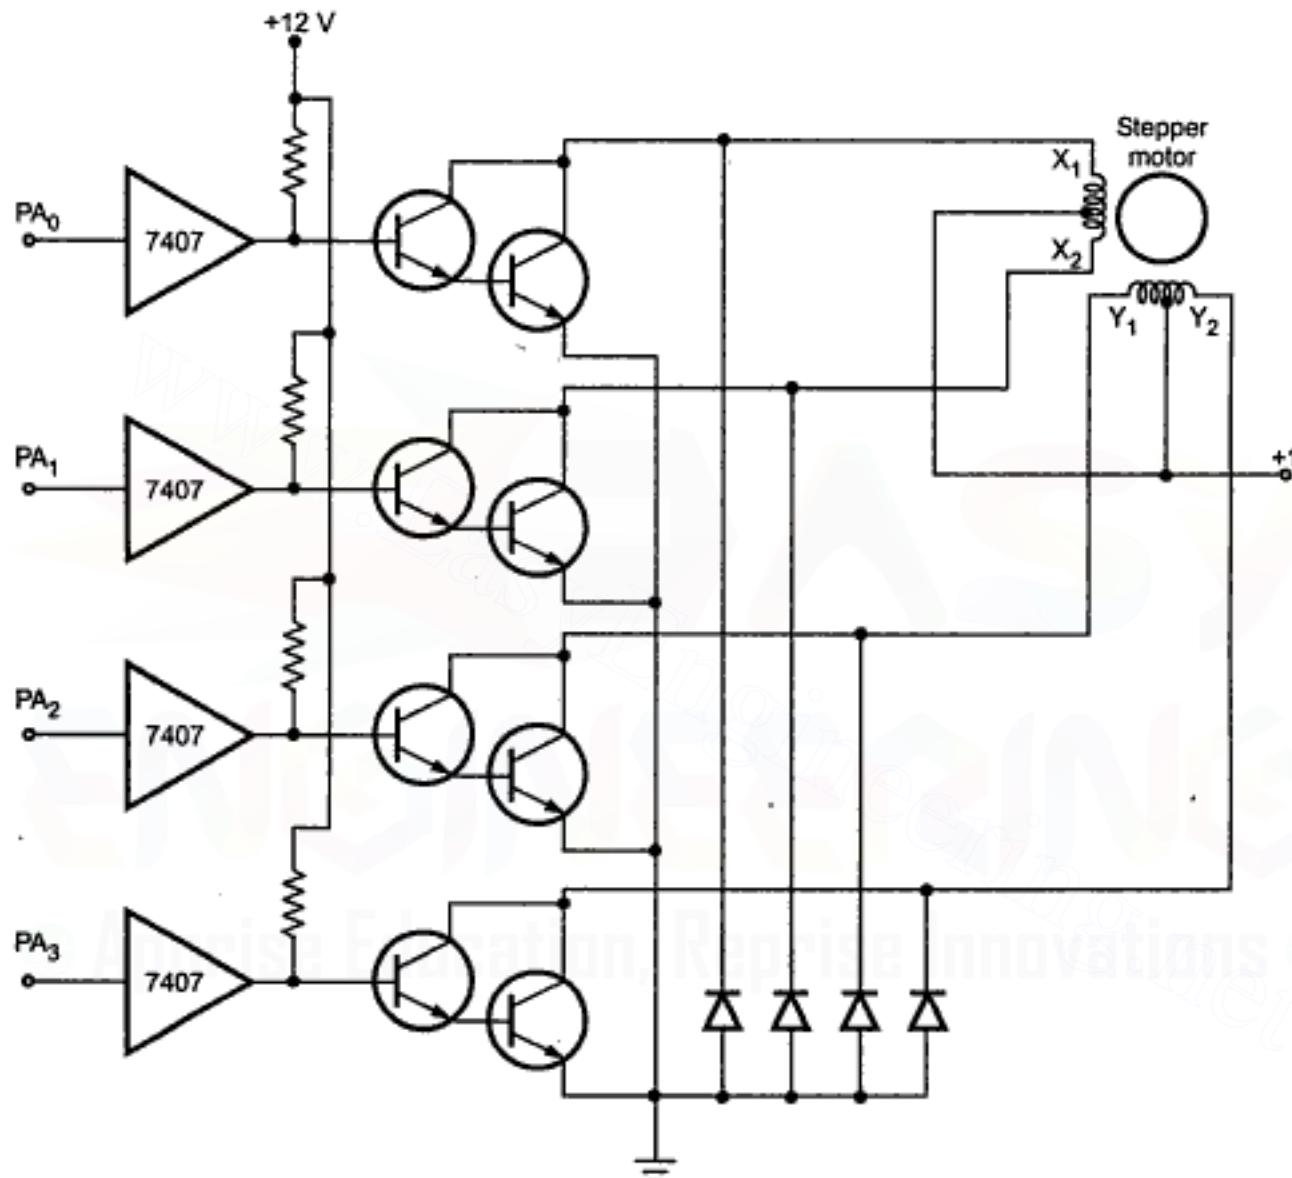

Fig. 13.47 Stepper motor interface
A stepper motor is a digital motor. It can be driven by digital signal. Fig. 13.47 shows the typical 2 phase motor interfaced using 8255. Motor shown in the circuit has two phases, with center-tap winding. The center taps of these windings are connected to the
► **Example 13.4 :** Write an 8051 assembly language program to control stepper motor using connections given in Fig. 13.47.